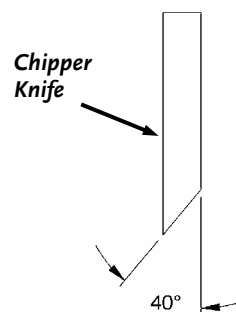

Figure 40
- It is extremely important to consistently maintain the 40-degree angle for proper performance (**Figure 40**).